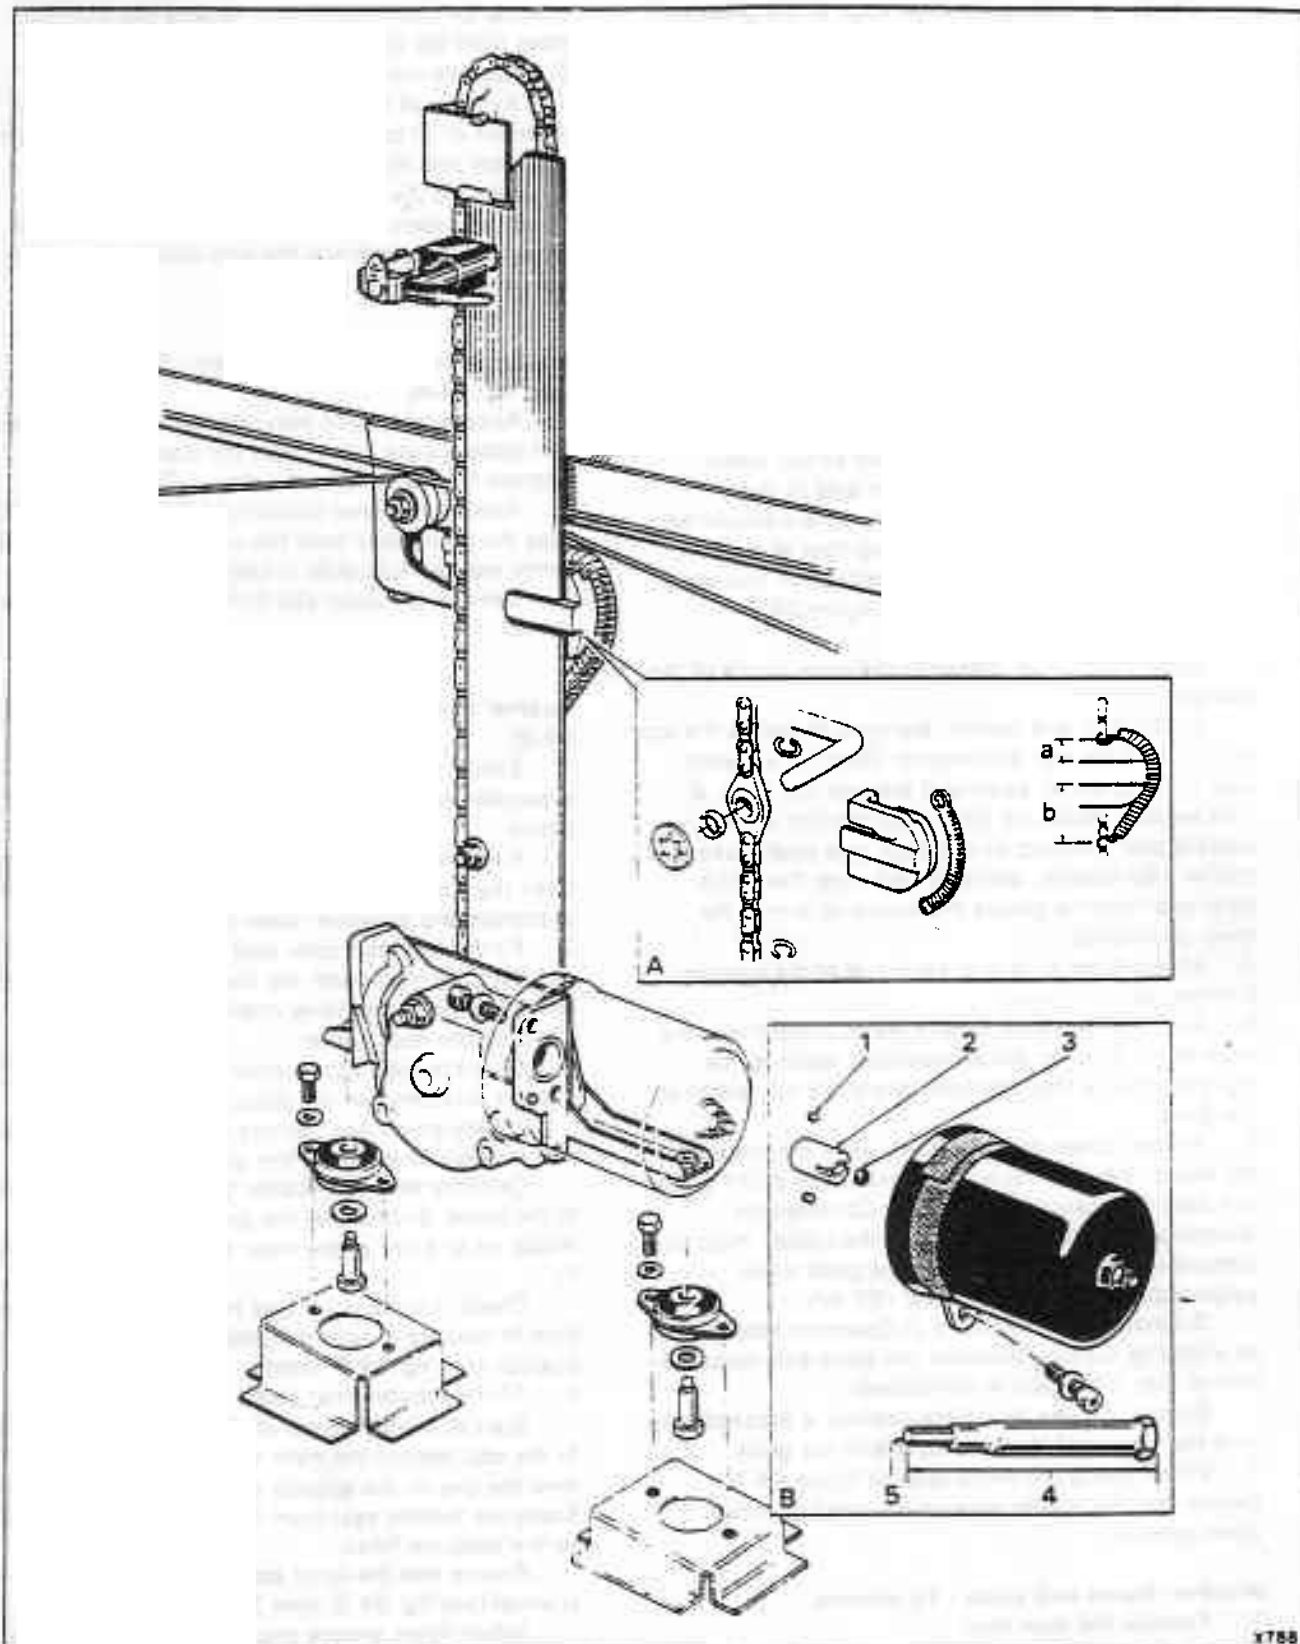

Fig. S4-6 Window lift mechanism
Window lift mechanism - To remove (see fig. S4-6)
Window lift mechanism - To fit (see fig. S4-6)
On certain cars, the window lifts can be slow in operation and judder when the window is operated in the up position. One of the major causes for this is the incorrect positioning of the slots for the silver steel rollers in the Daval clutch (see fig. S4-6, inset B).
4. Using a tool manufactured to the dimensions shown in figure S4-6, remove the window motor. This tool enables all electric window lift motors to be removed from the regulator whilst in position.
2. Release the spring moulded guide, star washer, and distance piece from the window lift pick-up plate. Support the glass, then release the swinging arm from its pivot point on the window lift assembly (see fig. S4-6).